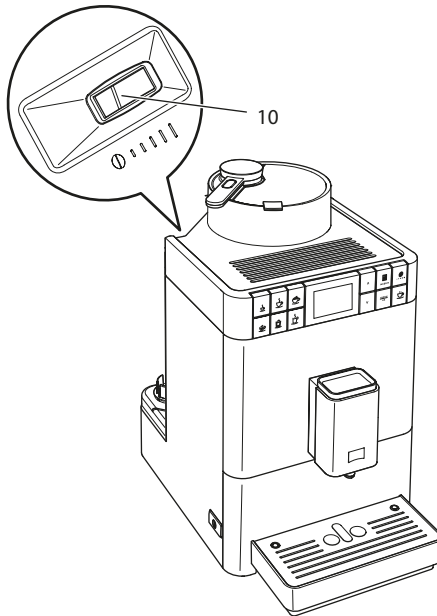

Fig. 18: Lever for setting the grinding fineness
- » The "Grinding fineness adjustment" lever (10) is visible on the housing.
2. Move the lever to the left or right as shown on Fig. 18.